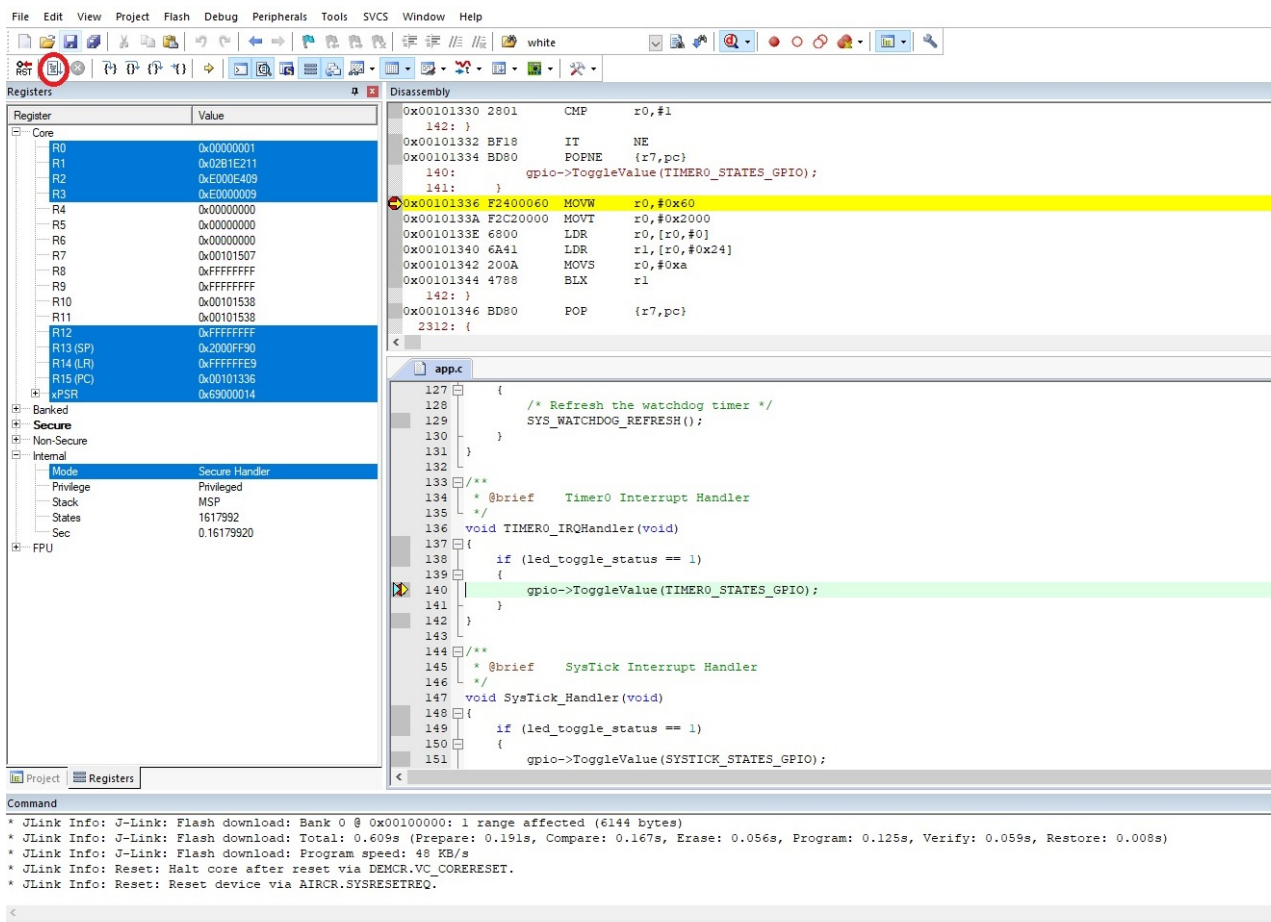

Figure 31. Debug Session in the Keil  $\mu$ Vision IDE
- The application runs up to the first breakpoint in main, as shown in the figure "Debug Session in the Keil  $\mu$ Vision IDE" (Figure 31). You can press F11 multiple times to step through the code and observe that the LED changes its state when the application executes the line `gpio->ToggleValue(TIMERO_STATES_GPIO);`.